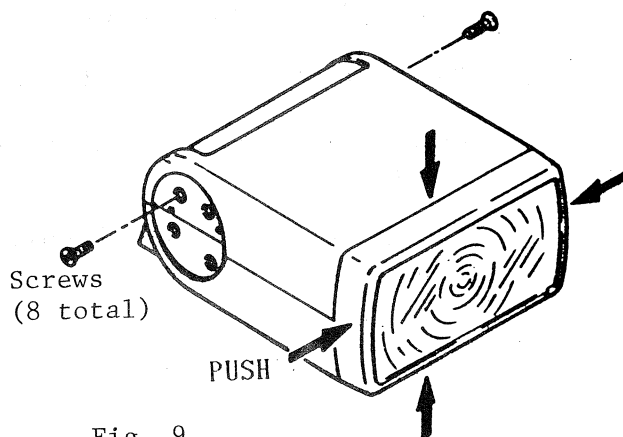

Fig. 9
- 6.2 Remove the frame from the front of the flash head. It is easier to remove if you push in on the sides of the frame and the top and bottom of the flash head covers at their junction with the frame. The frame is held by four clips. (Fig. 9)